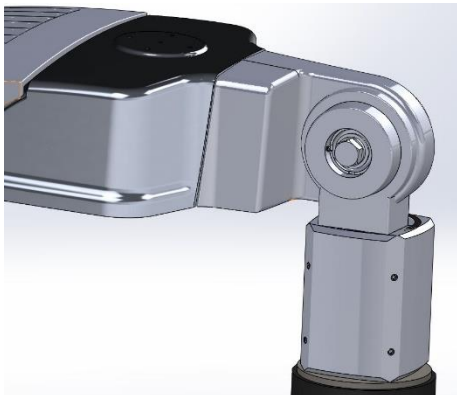

Fig. 3
- If necessary, loosen 1/2" hex head bolt then tilt the luminaire in the desired position, each tooth allows for 10 degrees of inclination (Fig.3).